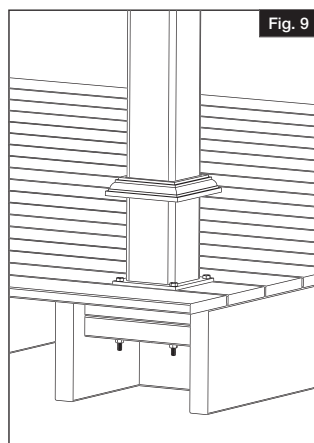

Fig. 9
- b. Push $\frac{5}{16}$ " bolts through post plate and attach separate bottom plate from beneath deck surface using purchased nuts (posts can be leveled as needed by using steel washers as shims) (Fig. 9).